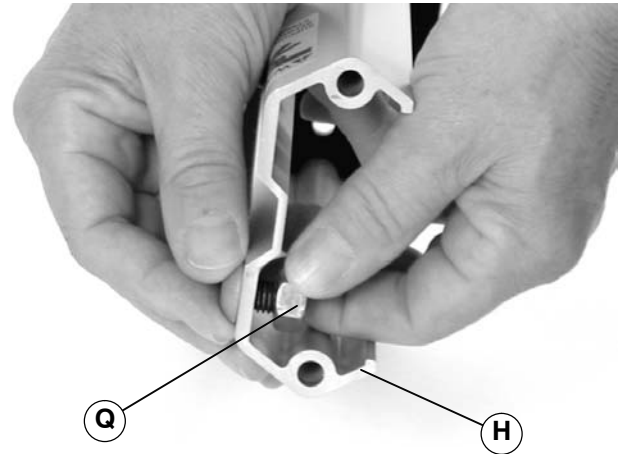

Figure 12
2. Loosen (2) hex nuts Q of Figure 12) located on boot assembly (H).